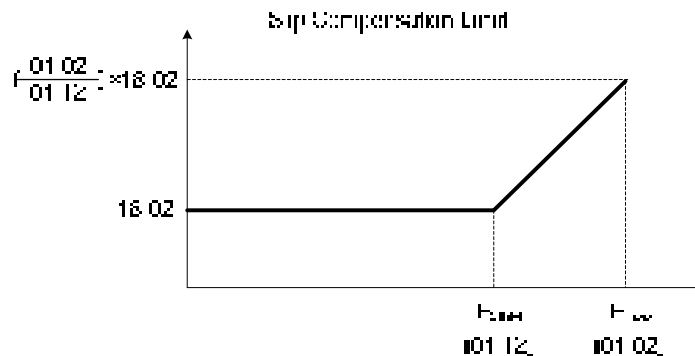

Figure 4.3.100 Slip compensation limit
- (1) Sets slip compensation limit in constant torque and the constant power operation (Figure 4.3.100)
- (2) When 18-02 is 0%, the slip compensation limit is disabled.